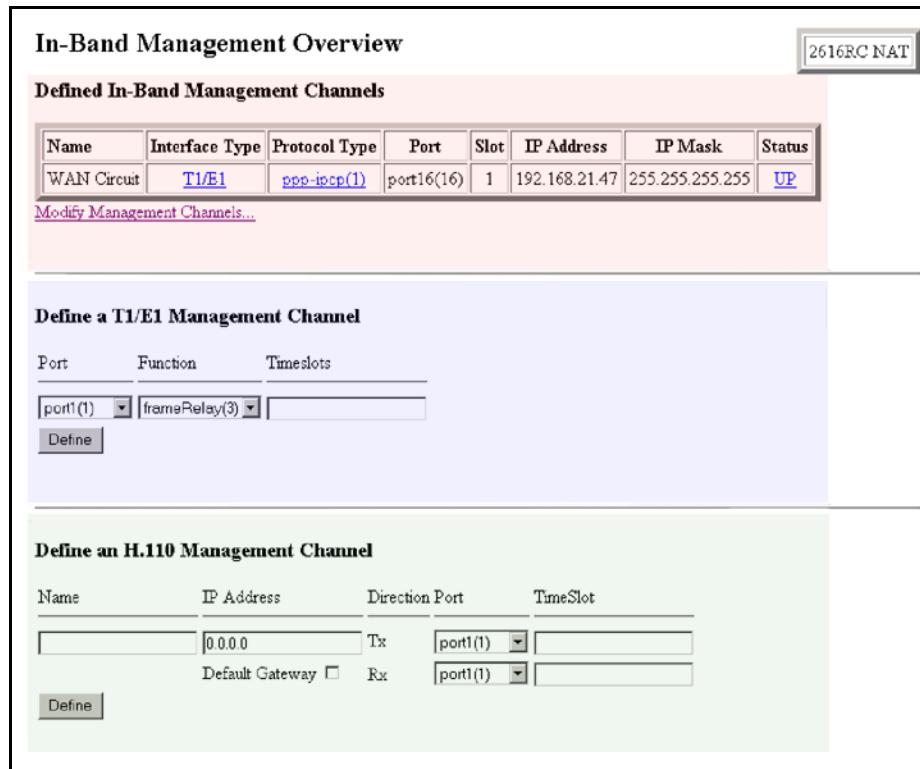

Figure 83. In-Band Management Overview window (Model 2616RC shown)
Accessed by clicking on the *In-Band Mgmt* hyperlink in the Configuration Menu pane, the *In-Band Management Overview* window (see figure 83) is the main window for the In-Band Mgmt system and is divided into the following sections:
- *Defined In-Band Management Channels* (highlighted in red in figure 83) displays all currently defined in-band management channels
- *Define a T1/E1 Management Channel* (highlighted in blue in figure 83) is where a Frame Relay or PPP T1/E1 management channel is created (see section “Defining a T1/E1 Management Channel” on page 154 for details)
- *Define an H.110 Management Channel* (highlighted in green in figure 83) is for creating new management channels between cards within the same chassis over the TDM mid-plane (see section “Defining a Chassis \(H.110\) Management Channel” on page 160 for details)
Note To see the newly created link appear in the *Defined In-Band Management Channels* table of the *In-Band Management Overview* window (see figure 83 on page 153), click the *In-Band Mgmt* link in the Configuration Menu pane.